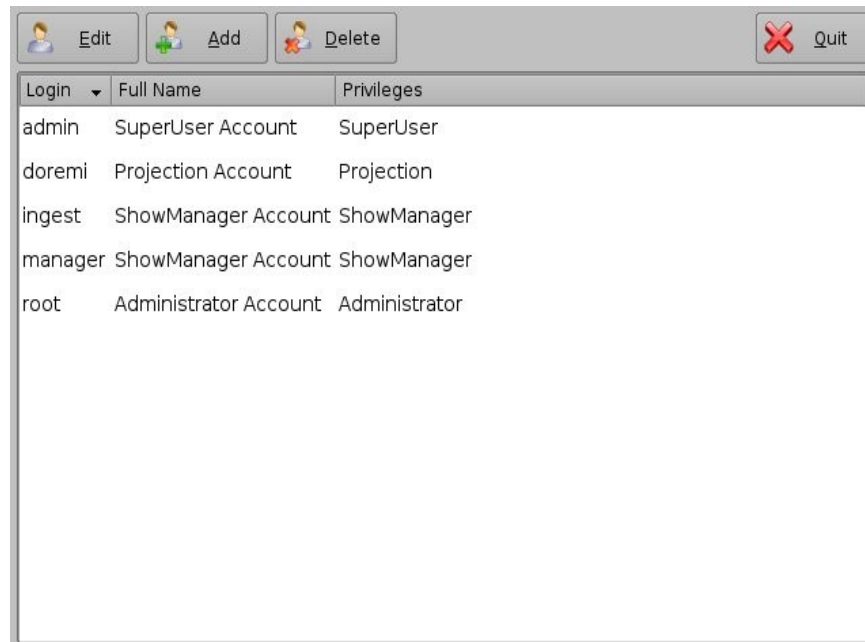

Figure 20: Account Manager GUI
- The Account Manager GUI allows the user to edit, add, and delete user accounts (Figure 20).
- To add a new user account, click the Add button (Figure 20).